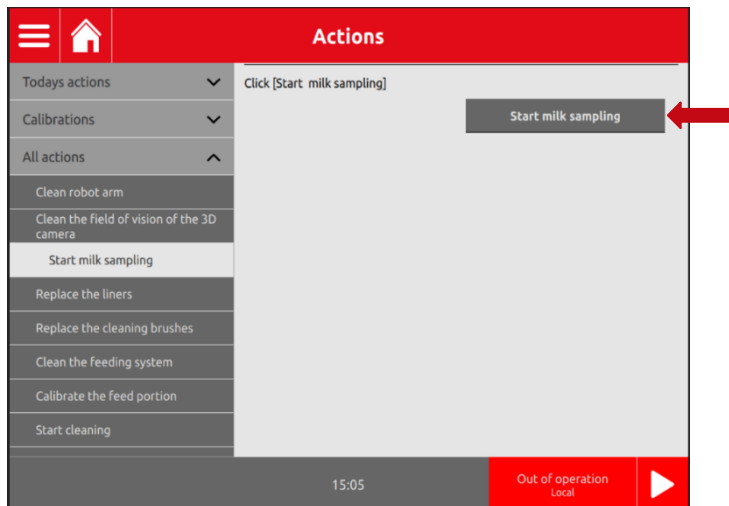

Figure 25. Menu Start milk sampling
2. Select **Start milk sampling**, see the figure 25